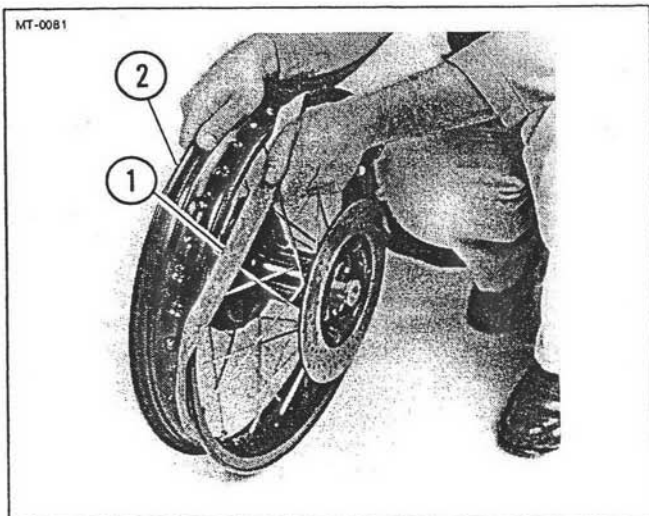

Figure 5-56. Removing Rim Strip
14. See Figure 5-56. Remove and discard rubber rim strip (1) from wheel rim (2).
1. See Figure 5-56. Install a new rim strip (1) onto wheel rim (2), aligning hole in rim strip with inner tube valve hole in rim.